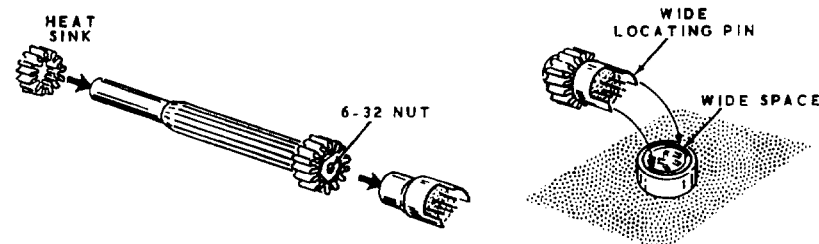

Figure 1-2
- () Referring to Figure 1-2, install a heat sink on each of the 6DS4 nuvistors. Place a 6-32 nut in the large end of the nut starter. Slide a heat sink on the small end of the nut starter and down over the large end of the nut starter onto the 6DS4 nuvistors.